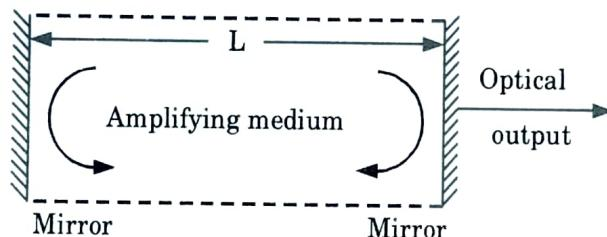

Fig. 3.17.1. The basic Laser structure incorporating plane mirrors.
3. To achieve laser action it is necessary to contain photons within the laser medium and maintain the condition for coherence. This is obtained by placing mirrors at either end of amplifying medium as shown in Fig. 3.17.1.